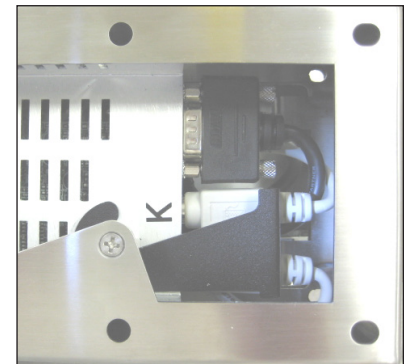

FIGURE 6
- Snap retention bracket into first groove of each PS2 cable strain relief as shown in Figure 6.